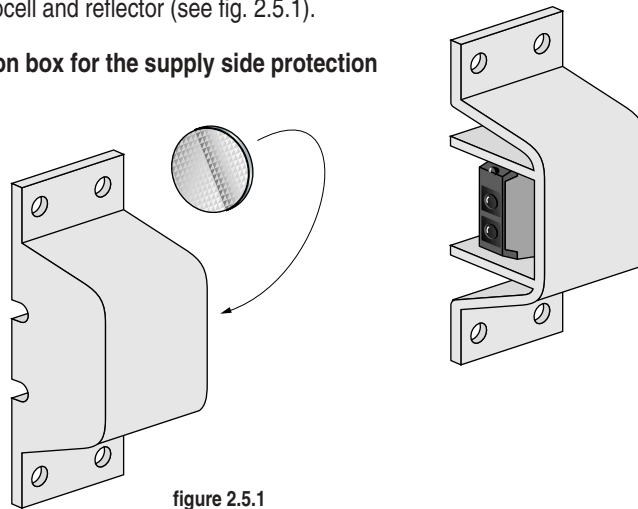

figure 2.5.1
- 1 fit the safety photocell and reflector (see fig. 2.5.1).